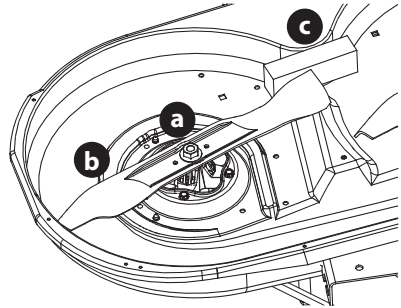

Figure 52
- Place a block of wood (c) between the deck housing and the cutting edge of the blade (b) to help in breaking loose the hex nut (a) securing the blade (b). Use a 15/16-inch wrench to loosen the hex nut (a) (Figure 52).